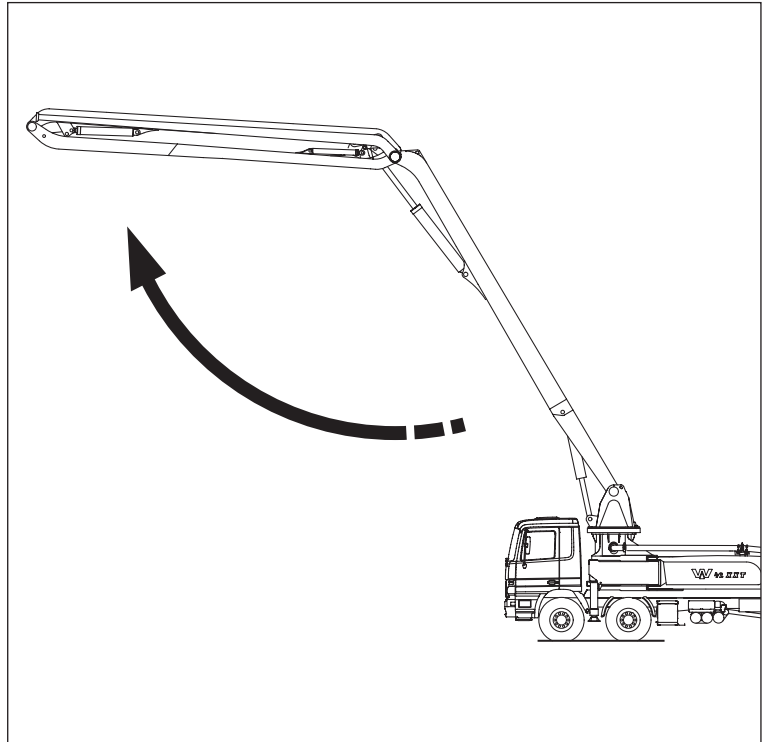
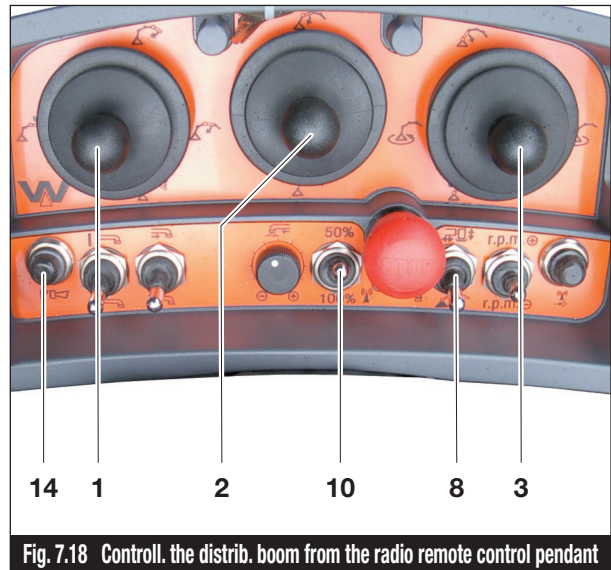

Fig. 7.14 Deploy boom element B
Fig. 7.18 Control. the distrib. boom from the radio remote control pendant
- Press the master switch “Deploy boom element B” (2) and deploy boom element B until it is approx. 120° to boom element A (see Fig. 7.14).
- Release the Emergency Stop by pressing the Horn/Reset (Item 14, Fig. 7.18). The horn will sound.
- Switch the selector switch “Outrigger/ Boom” (Item 8, Fig. 7.18) to “Boom” and uncap the Emergency Stop button.
- The 50%/100% switch (Item 10, Fig. 7.18) controls the boom speed, 50% when pumping, 100% when deploying / stowing.
- Press the master switch “Deploy boom element A / Slew boom” (Item 3, Fig. 7.18) and deploy boom element A until the catch hook releases and the boom element B can be deployed (see Fig. 7.12).
- Press the master switch “Deploy boom element A / Slew boom” (Item 3, Fig. 7.18) to move the distributor boom into the position where the discharge hose retainer can be opened.
- Press the master switch “Deploy boom element B” (Item 2, Fig. 7.18) and deploy boom element B until it is approx. 120° to boom element A (see Fig. 7.14).
- Use the joystick “Deploy boom element C and D” (Item 1, Fig. 7.18) to deploy boom element C to 90° to boom element B (see Fig. 7.15).
- Use the joystick “Deploy boom element C and D” (Item 1, Fig. 7.18) to deploy boom element D to 90° to boom element C (see Fig. 7.16).